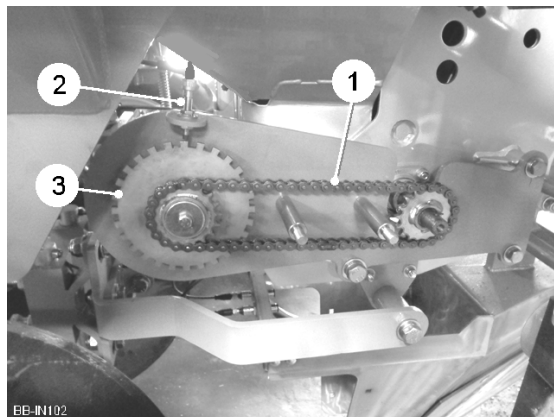

Fig. 22
The automatic space selector drive chain (item 1, fig. 22) is tensioned by loosening the hydraulic motor mounting bolts (x2), rotating the motor in the bottom slot, and then retightening the bolts.
The hydraulic space selector proximity sensors (item 2, fig. 22), one behind the motor guard (shown) and one behind the RH wheel leg guard, are activated by the teeth of the monitor wheels (item 3, fig. 22) passing in front of them. When activated, a red light appears on the sensor body. Should the sensor not activate, the gap between the sensor and the monitor wheel may need adjustment. A retaining nut holds the proximity sensor in position. The distance between the sensor and the monitor wheel can be adjusted by loosening the retaining nut and then moving the sensor closer or further from the monitor wheel. This setting should be approximately 1mm to 1.5mm. Do not overtighten. The proximity sensor must be centrally mounted over the monitor wheel.